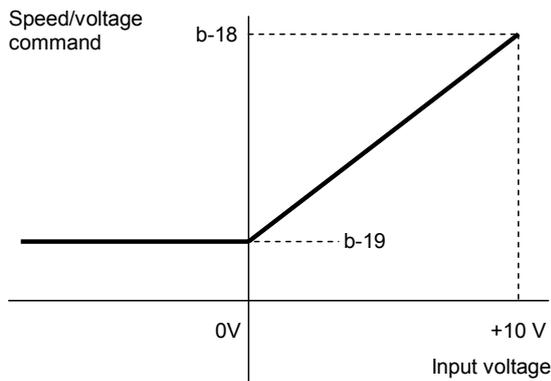
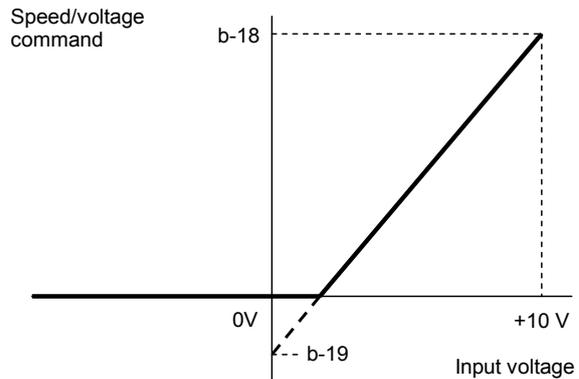

Figure 2-1 When 0 to +10V is selected
Figure 2-2 When 0 to +10V is selected
2. When the analog input (1) characteristics selection is 0 to +10V input (b-17 = 1)
When 0V is input, the characteristics are the setting of the analog input (1) speed/voltage lower limit (b-19). When +10V is input, the characteristics are the setting of the analog input (1) speed/voltage upper limit (b-18) (Figure 2-1). However, those are effective for positive voltages only. Negative voltages are limited to the analog input (1) speed/voltage lower limit (b-19) (or 0 when a negative value is set to the analog input (1) speed/voltage lower limit (b-19)) (Figure 2-2).